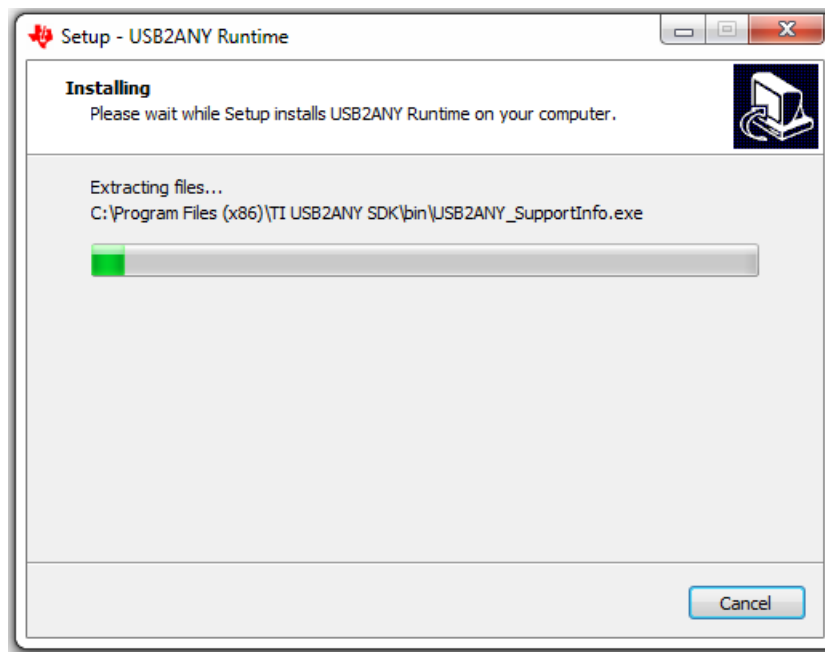

Figure 22. USB2ANY Installation Progress
7. The installer begins self-extraction and proceeds with the installation as shown in Figure 22.